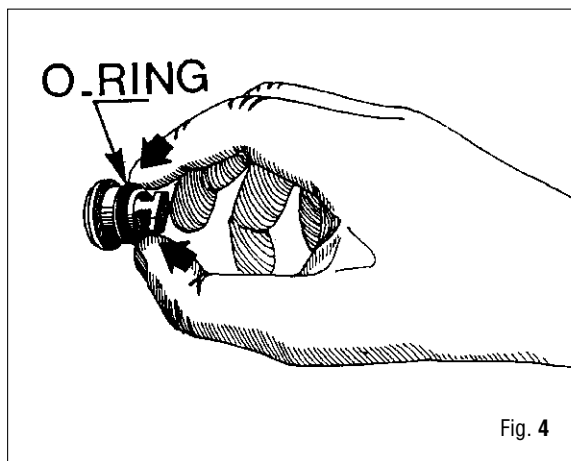

Fig. 4
20. Place O-ring (66) on case plug (64) (Fig. 4).
24. Slide lock connector (77) into place over the hose connector.
7. If previously disassembled, position O-ring (66) on the cover (64). (Fig. 4)
8. Correctly align the tabs of the cover (64) with the grooves of the second stage case (32).
9. Push the cover (64) into the second stage case.